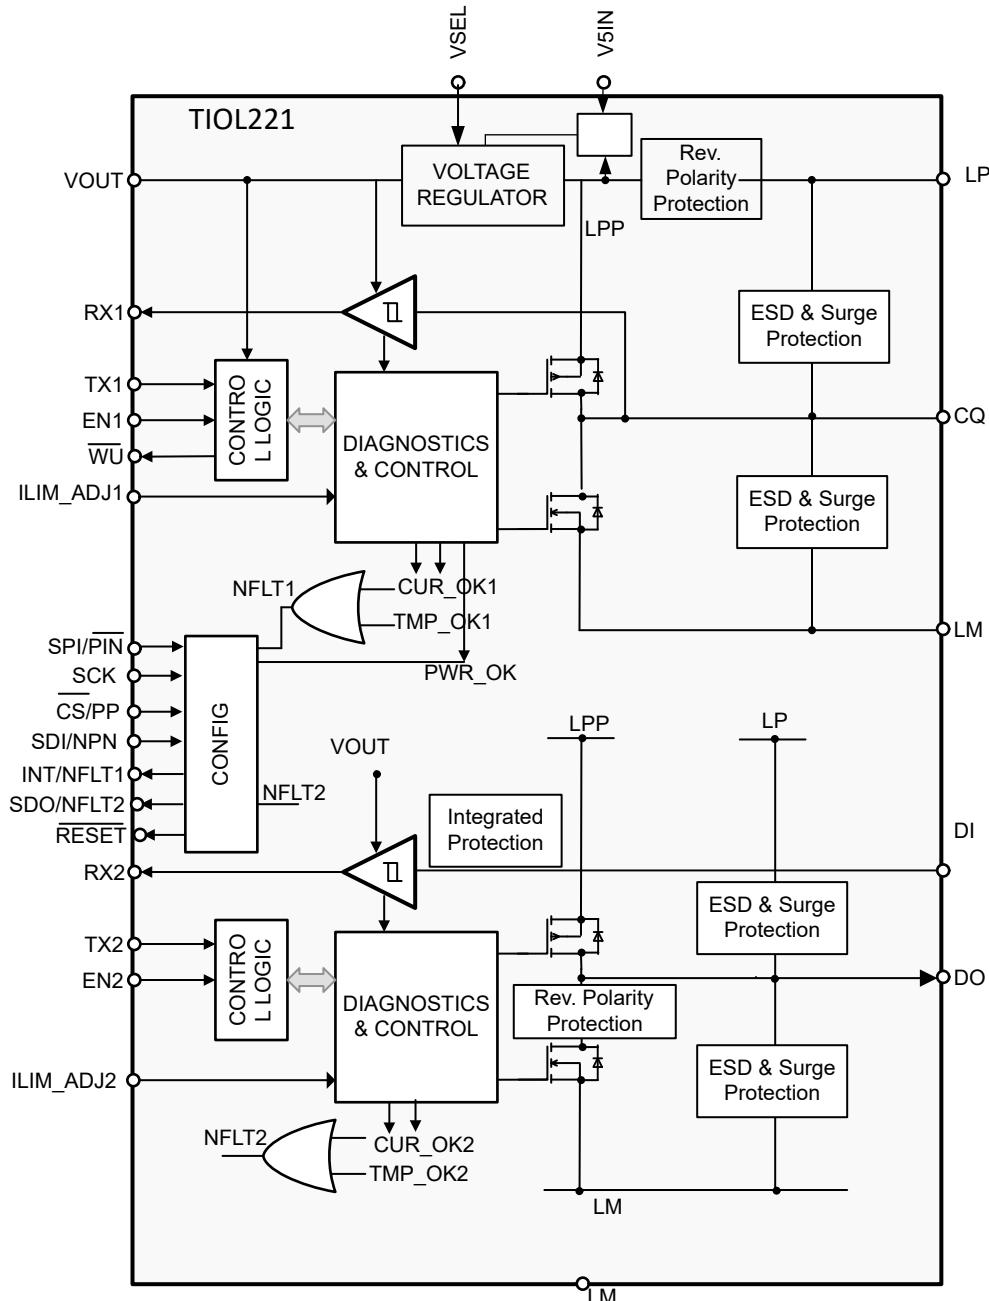

図 7-1. Block Diagram
図 7-1 shows the functional block diagram of TIOL221. The device has an IO-link compatible channel (CQ), a digital output driver (DO) and a digital input (DI) interface. The drivers at CQ and DO can be used in either push-pull, high-side driver (PNP), or low-side driver (NPN) configuration using the CS/PP and SDI/NPN pins in the pin-mode or via the serial peripheral interface (SPI). The internal receiver on the CQ line converts the 24V signal to standard logic levels on the receiver data output pin, RX1. Similarly, internal receiver on the DI line converts the 24V signal to standard logic levels on the receiver data output pin, RX2. A simple parallel interface is used to receive/transmit data and status information between the device and the local controller.